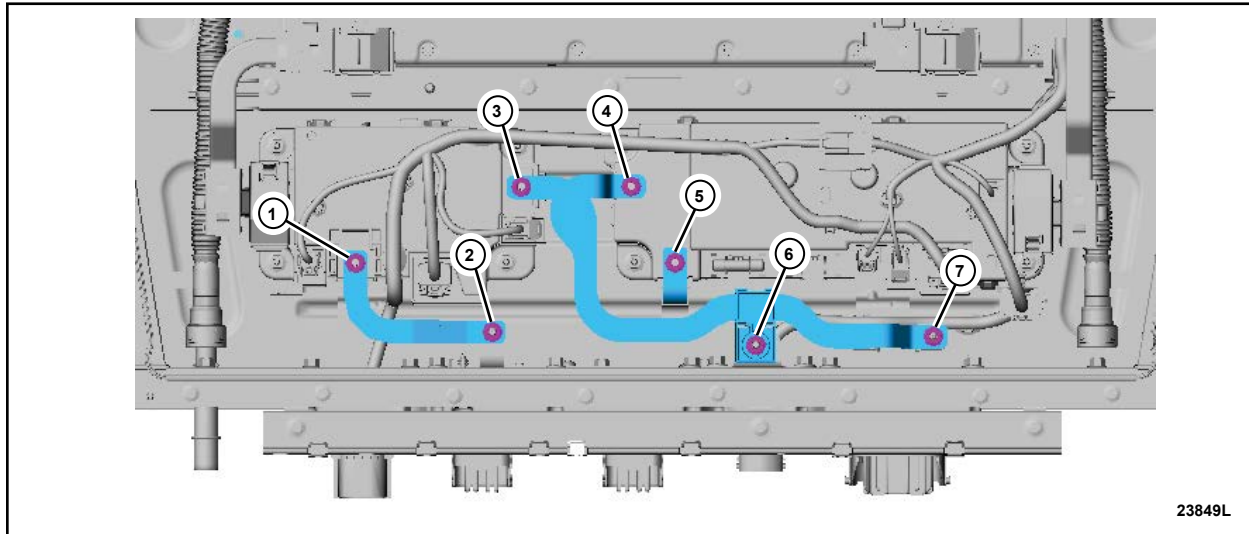

FIGURE 11
25. Check the residual torque-to-tighten on the bolts in Figure 11. Record the data.